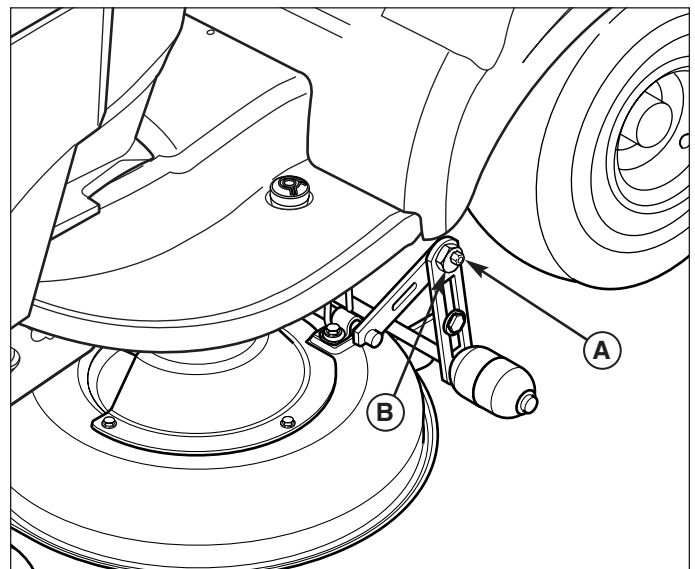

Figure 38. Leveling The Mower Side-to-Side
5. See Figure 38. Loosen the outside nut (A). Turn the eccentric nut (B) to raise or lower left-hand side of mower. When mower is level, hold the eccentric nut while tightening the outside nut.